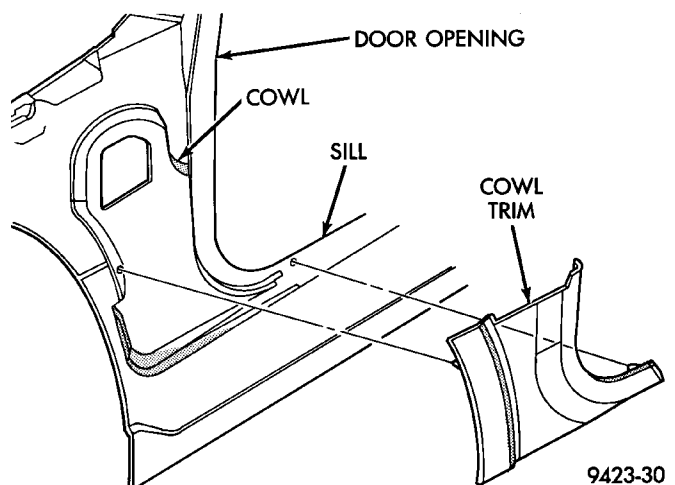

Fig. 57 Side Cowl Trim
- (1) Disengage clips holding cowl trim to cowl side panel.
- (2) Separate cowl trim from vehicle (Fig. 57).